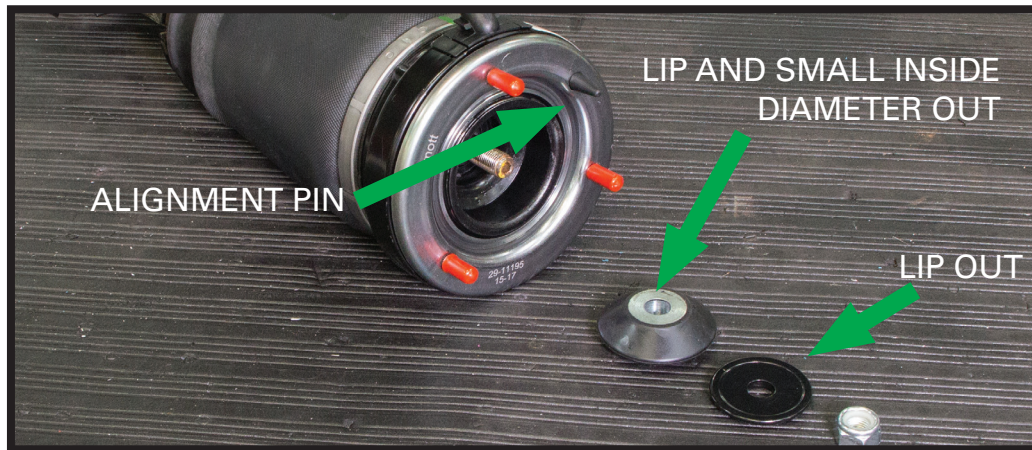

FIGURE 15
8. INSTALL TOP SEALING WASHER, TOP WASHER AND LOCK-NUT. TORQUE LOCK-NUT TO 125NM. (FIGURE 15)